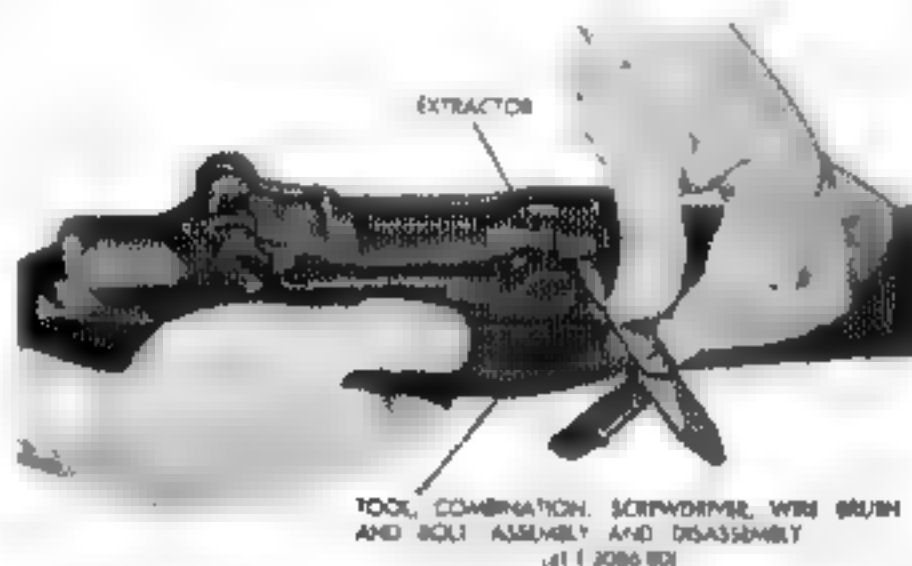

Fig. 116. Removing extractor, bolt in rifle.
44. Removing and installing the extractor without removing bolt from rifle (see Para. 24 (f) (3) and (5), and Fig. 116).